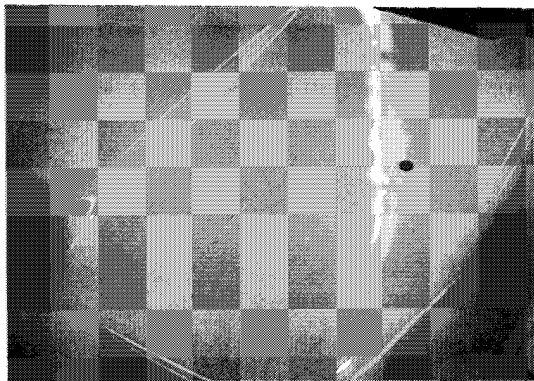

Figure 5-1
1. Using clean rags, clean a considerable distance in every direction around the damaged area to determine the extent of the damage. (Figure 5-1).